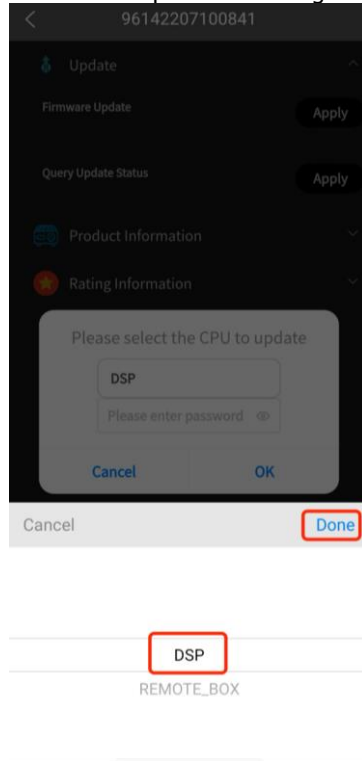

Figure 2
6. Enter the password provided by the supplier in the input field and then click "OK". The dialog "Send update command success" will pop up, as shown in Figure 2. The firmware will start updating. Please wait until it is successfully updated. (Be sure to maintain good network conditions and ensure that the inverter is powered on, during updating.)